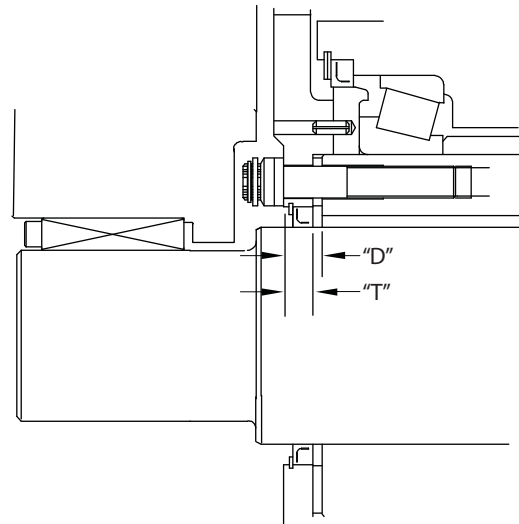

Figure 3
- 2.2.15 Using a depth micrometer through the holes in the brake reaction plate, measure and record the distance from the outer surface of the brake reaction plate to the face of the flywheel bearing quill ("D" on Figure 3).
- 2.2.16 Remove the brake reaction plate, making sure the flywheel remains in position, and measure and record the thickness of the brake reaction plate flange ("T" on Figure 3). Use the average of these values.